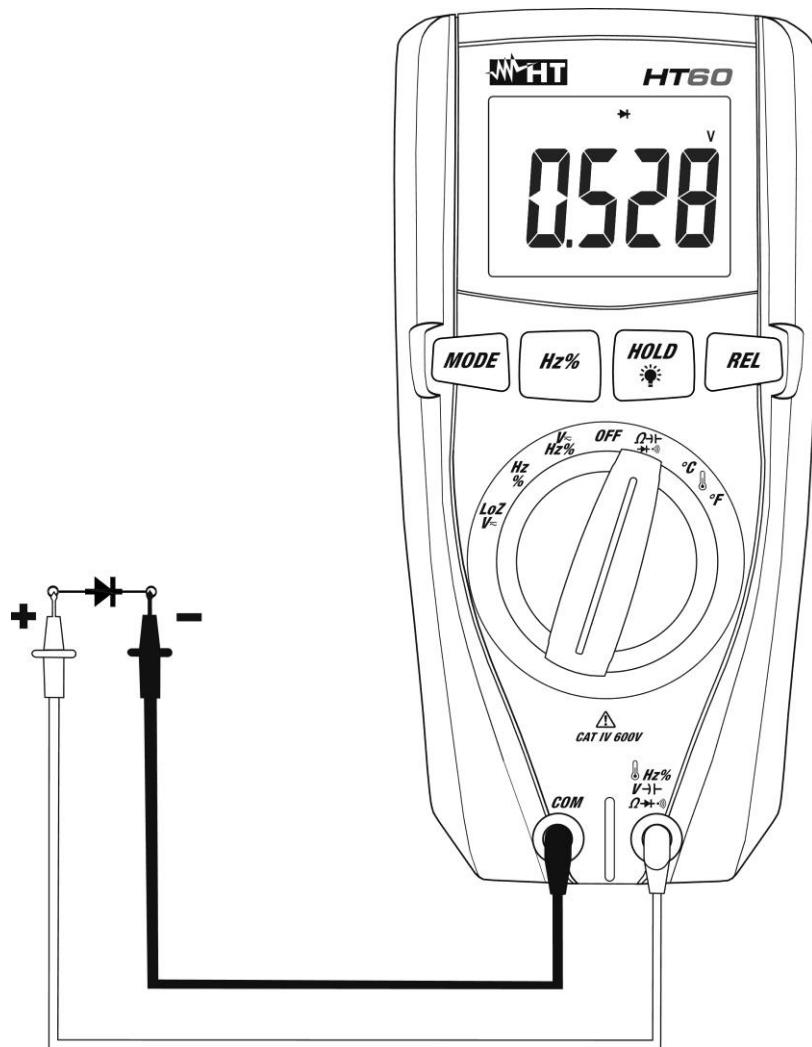

Fig. 6: Use of the instrument for diode test
4. Position the leads at the ends of the diode to be tested, respecting the indicated polarity (see Fig. 6). The value of directly polarized threshold voltage is shown on the display.
6. If the display shows the message “O.L.”, the terminals of the diode are reversed with respect to the indication given in Fig. 6 or the P-N junction of the diode is damaged.